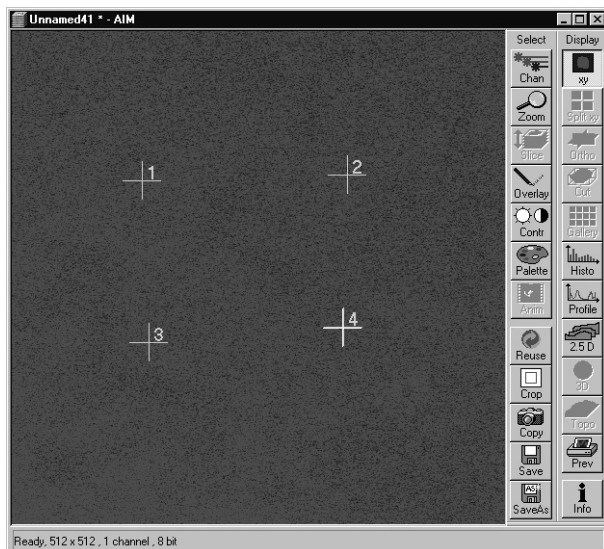

Fig. 5-397 LSM image of the Rh6G layer with markers for FCS-LSM adjustment
- Mark the points in the LSM image that you want to bleach by positioning the cross and pressing the **Add** button. The marked points will be listed. Click **Mark Pos** to overlay the markers in the LSM image (see Fig. 5-396 and Fig. 5-397).